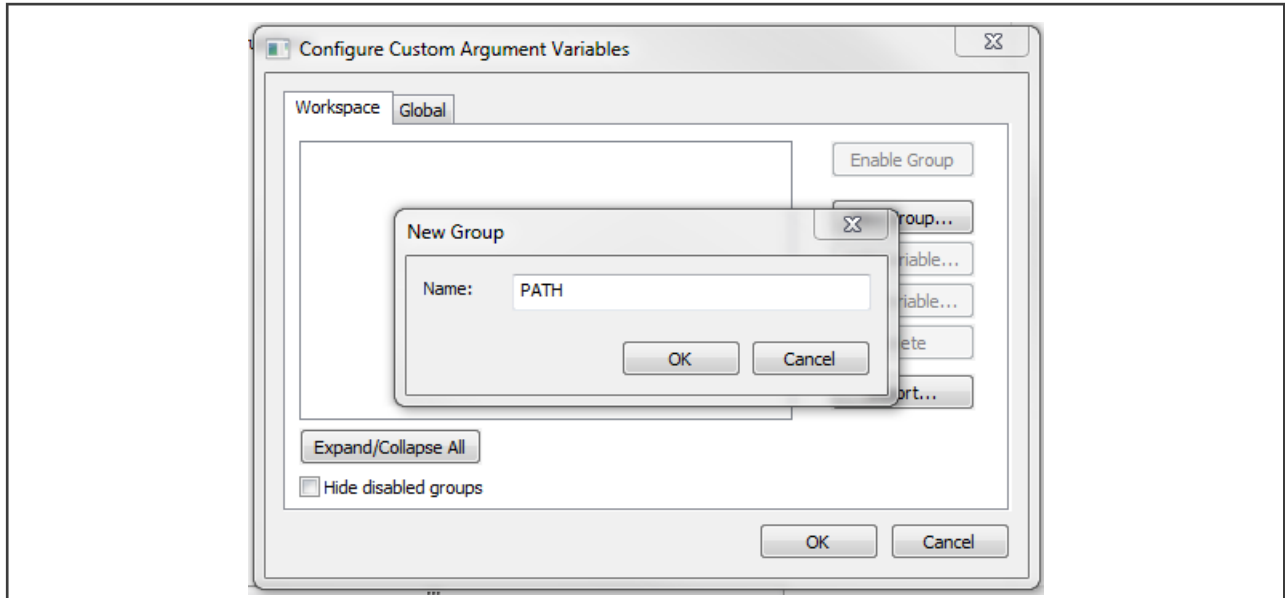

Figure 23. New Group
2. Click the New Group button, and another dialog appears. In this dialog, type the name of the group PATH, and click OK. See Figure 23.